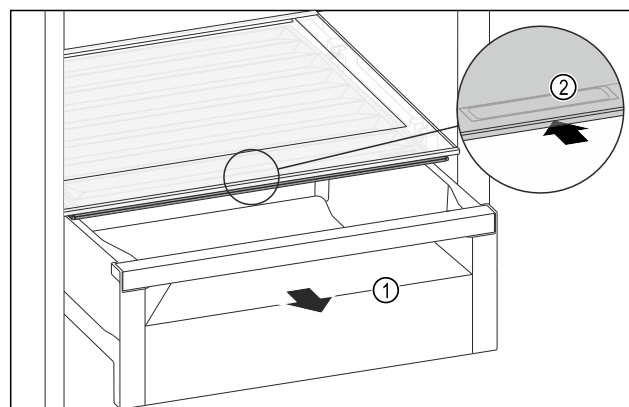

Fig. 74
- Pull out the drawer Fig. 74 (1).
- Grasp the recessed grip Fig. 74 (2) on the compartment lid and push the compartment lid backwards at the same time.